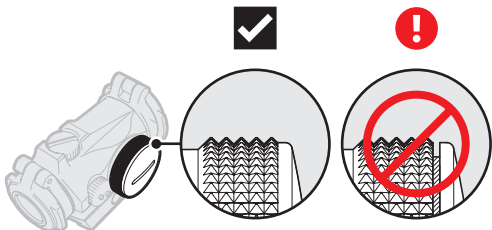

Fig. 1 → 2.1
- c Turn to the rotary switch (8) to intensity setting 12 (max.) and tighten the battery cap (6) with the tool (13B). When resistance is encountered, proceed to tighten until the battery cap (6) comes to a **stop**.
- d Verify that the red dot is present and that there is zero gap between the battery cap (6) and the battery compartment. See Fig. 1.